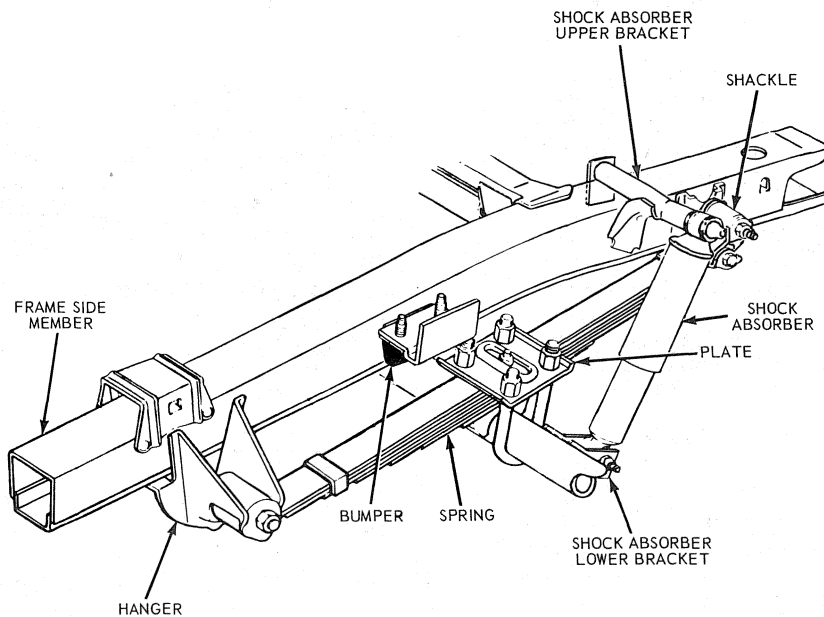

FIG. 4—Rear Suspension
2. Remove the shock absorber to frame attaching nut washer, and bushing from the shock absorber rod (Fig. 4).
3. Lower the axle to relieve spring tension and remove the nut from the spring to front hanger attaching bolt (Fig. 4). Drive the bolt from the spring and hanger with a drift.
3. Lower the axle to relieve spring tension and remove the nut from the shackle to hanger attaching bolt (Fig. 4).
2. Position the shackle to the spring and install the attaching bolt and nut (Fig. 4).